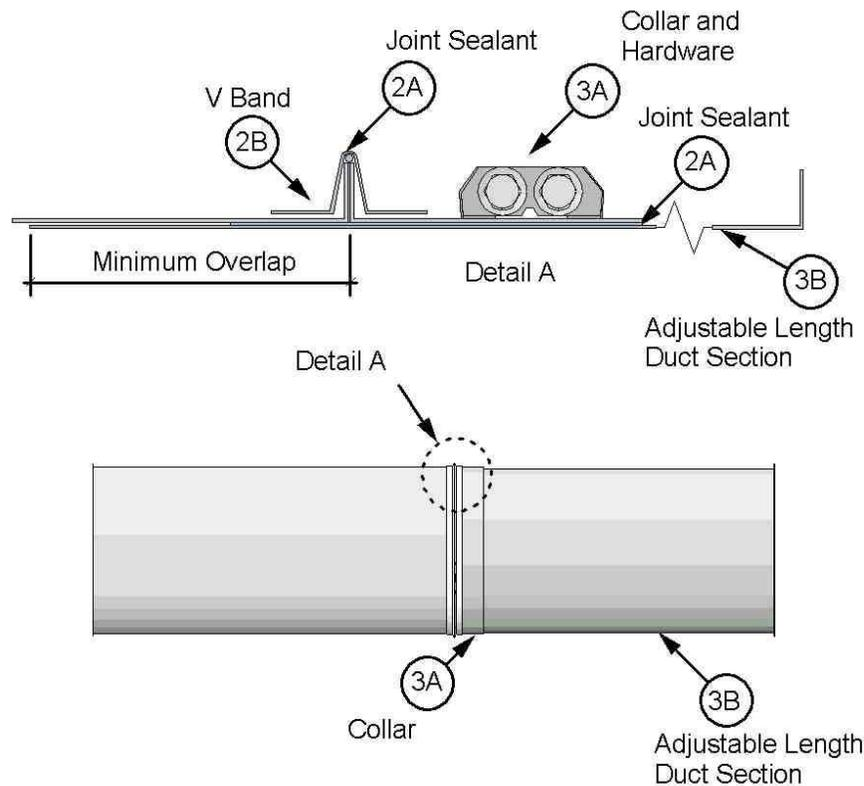

Figure 3. Adjustable Length Joint
3. ADJUSTABLE LENGTH JOINTS: Join the pre-fabricated grease duct (Item 1) adjustable length section to standard duct section using the following components and methods, and as shown in Figure 3: